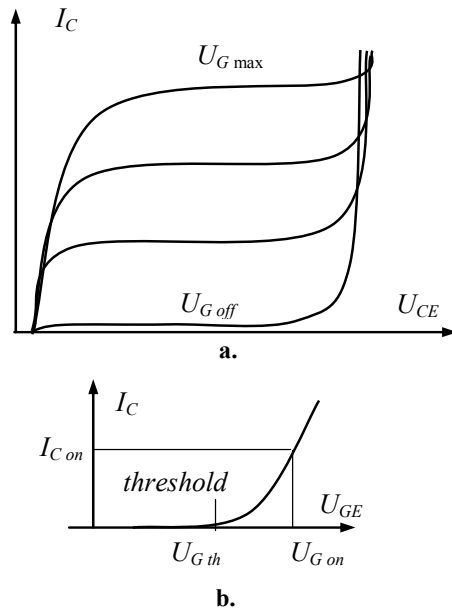

Fig. 1.46
**Characteristics.** The output curves of the  $n$ -channel IGBT and the input characteristic are shown in Fig. 1.46. The output curves are very similar to those of the small-signal  $nnpn$ -type bipolar transistor. The difference is that the gate signal of the IGBT is the gate voltage rather than the base current as for the bipolar transistors. Accordingly, the current of the input signal of IGBT does not flow through the gate. The transfer curve is identical to that of the power MOSFET. The curve is reasonably linear over most of the collector current range, becoming nonlinear only at low collector currents where the gate voltage is approaching the threshold.